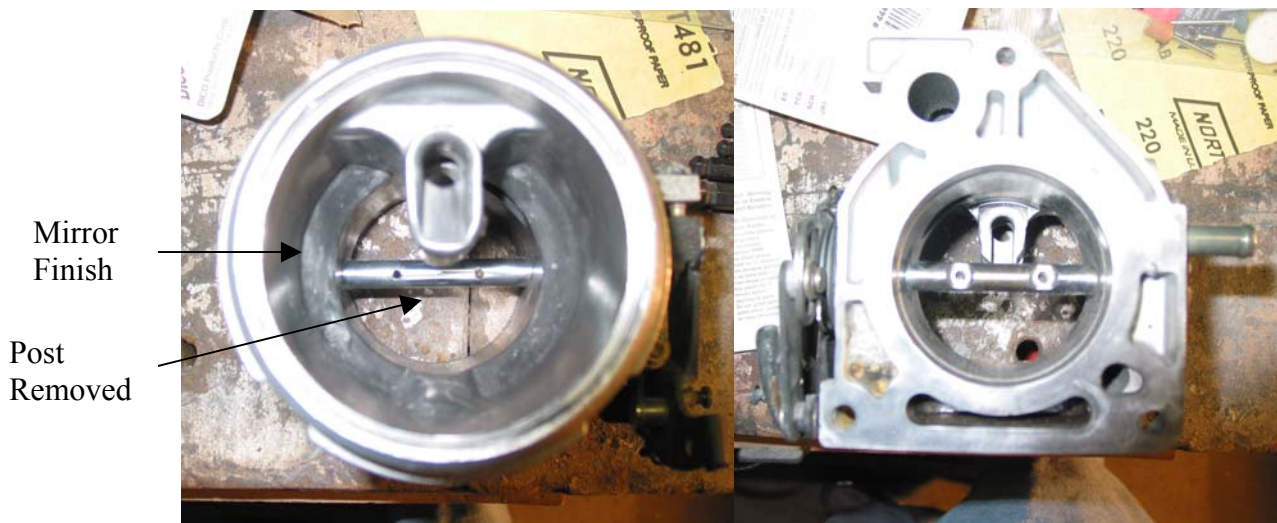

Figure 3: Interior of Throttle Body after Porting and Polishing
4. Your finished product should look similar to figure 3 without a mirror shine.